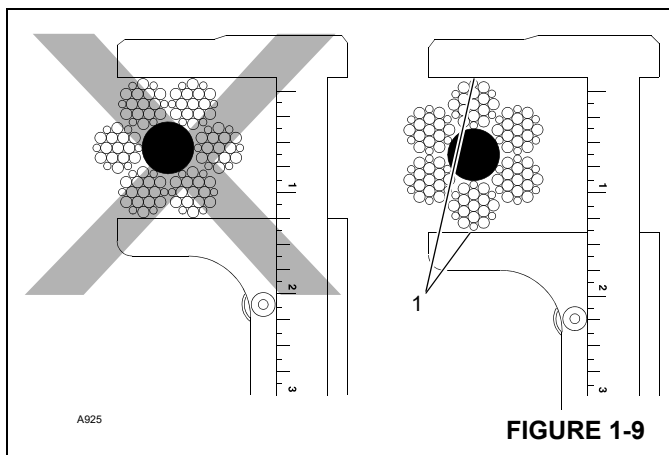

FIGURE 1-9
12. Measure the rope's diameter across crowns (1) of the strands when determining if rope has become damaged ((Figure 1-9)).